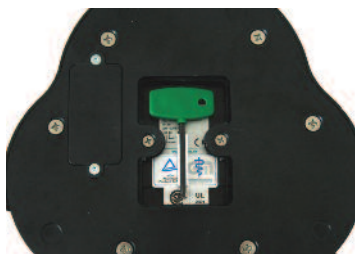

Fig. 3.1.1a
2. Place the pedal face down on a hard, clean surface, Fig. 3.1.1a.